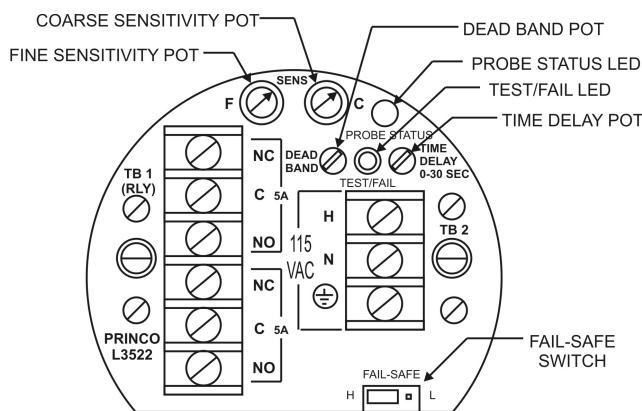

Figure 4-1
1. Refer to Figure 4-1 for L3522 adjustment and indicator locations.
- a) Refer to Figure 4-1 for adjustment and indicator locations. Refer to Figure 4-2 for a pictorial outline of this procedure.
- f) Preset Coarse (C) and Fine (F) sensitivity (SENS) potentiometers to mid-point positions (12 o'clock).
- g) With process material NOT contacting the probe, adjust the Coarse (C) sensitivity such that the PROBE STATUS LED "just turns" green. Mark the Coarse (C) pot screwdriver slot or mentally note its position.
- a) Refer to Figure 4-1 for adjustment and indicator locations. Refer to Figure 4-3 for outline of this procedure.
This action is controlled by a small plastic jumper selector switch FAIL-SAFE (F-S) located on the top of the unit (Figure 4-1). The L circuit pad designates Low Acting Alarm. The H circuit pad designates High Acting Alarm. The center pad is the common, and always connects to one position of the jumper selector.